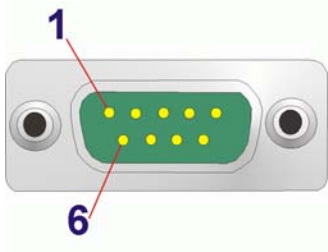

Figure 4-23: COM1 Pinout Locations
**CN Pinouts:** See Table 4-25 and Figure 4-23